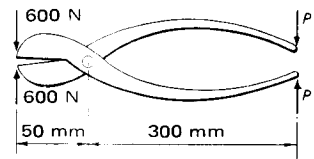

Fig. 2.45
2. Find the force  $P$  required at the ends of the handles of the shears shown in Fig. 2.45.